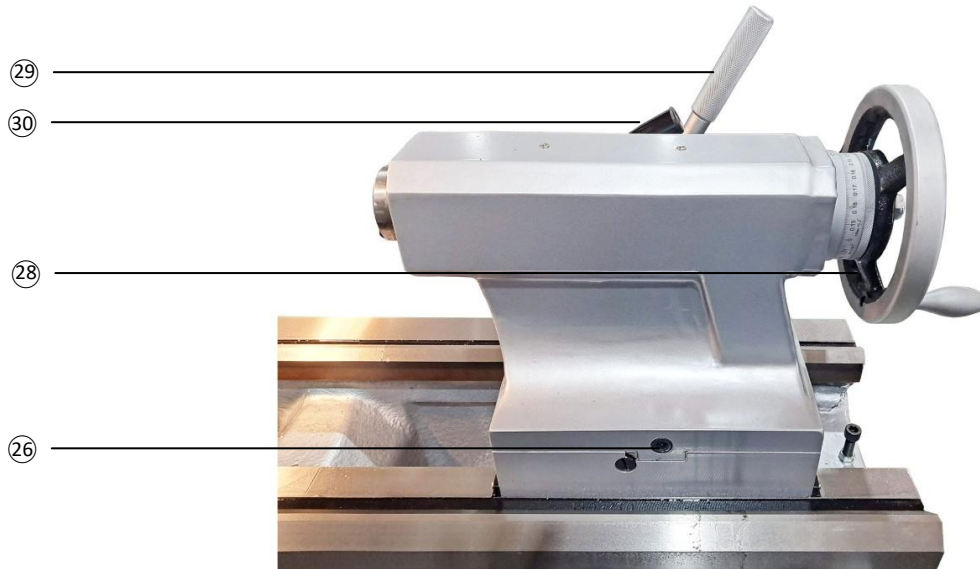

Fig.4-12
2. To lock the quill, push locking lever forward. (③⑩ Fig. 4-12).
3. The centerline of the tailstock can be adjusted using set-over adjusting screw ②⑥ Fig.4-12. After adjusting, be sure to tighten screws on both sides.